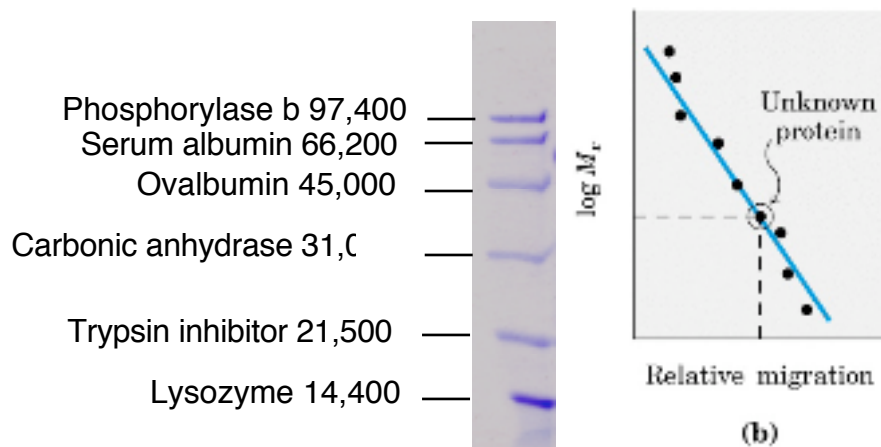

Figure 2. Sizes of protein molecular weight markers (M_r – molecular mass) and example of molecular mass determination (b).
- Use Microsoft Excel to prepare a standard curve by plotting the logarithmic value of the molecular mass (M_r) of each molecular weight marker (y axis) against its migration distance (in mm, x-axis) from the well (see figure 2). Estimate the molecular mass of GFP from the curve by using the equation for the line of best fit for your data. Turn graph in with your final lab report.